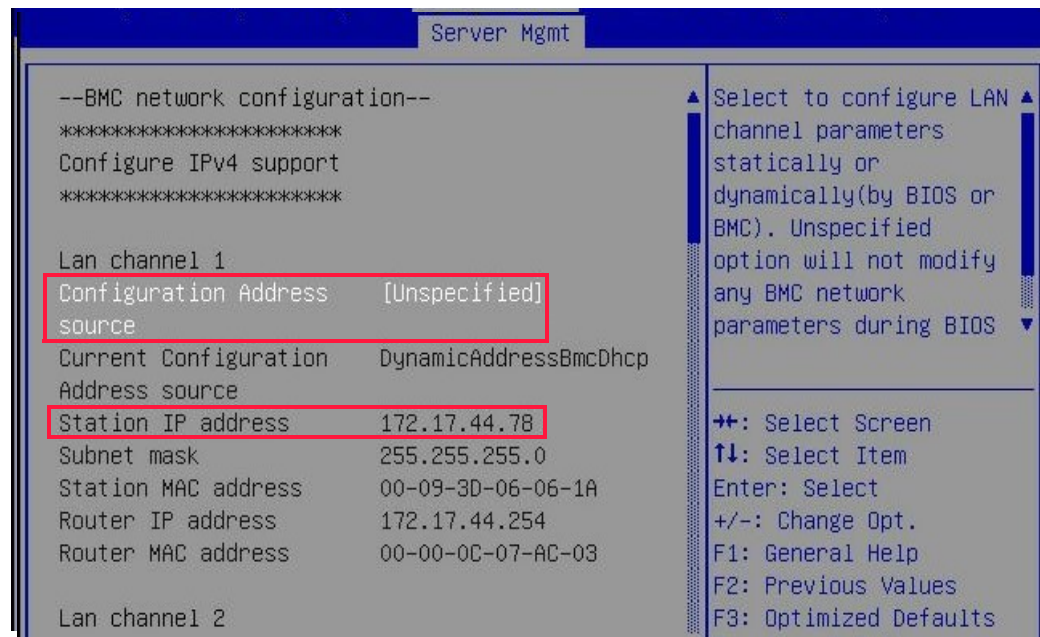

Figure 6.5 BMC network config
9. Press the arrow down key to position the cursor at **BMC network configuration** on the Server Mgmt menu, and then press <Enter>. The **BMC Network Configuration** screen displays as shown in Figure 6.5, and the **Configuration Address source** field displays **Unspecified**.